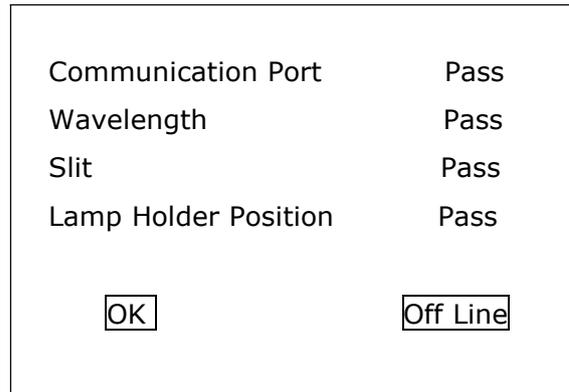

Figure 4-3
4. After the self-test, the screen is as shown in Figure 4-3.